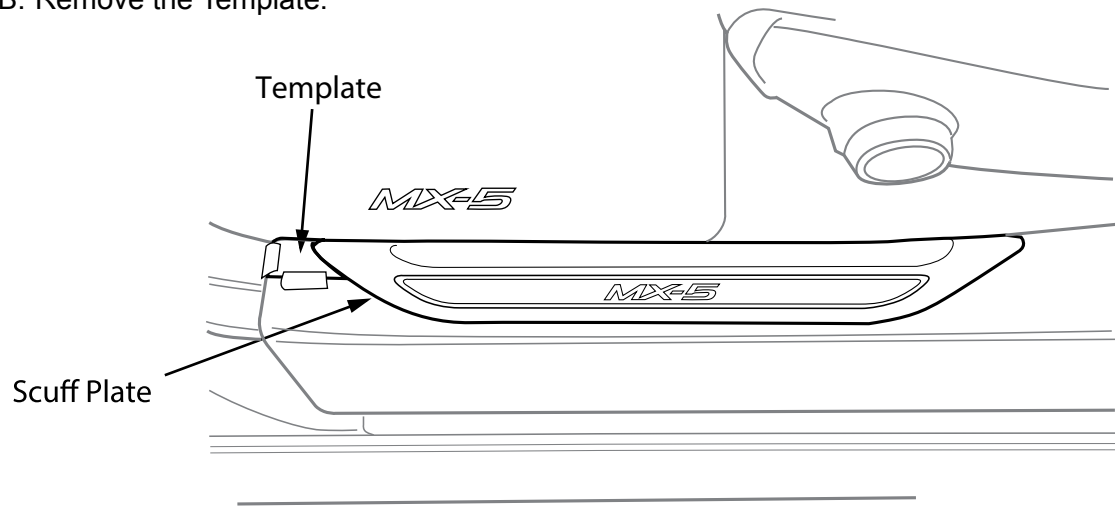

Figure 7
- A. Carefully align Scuff Plate with the Template and press down flat into position. (Figure 7)